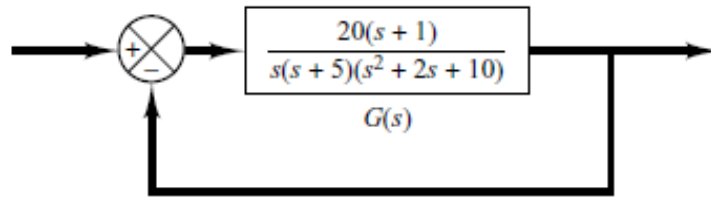

Figure 1: Block diagram of a closed-loop system
6. Given the closed-loop system in Figure 1.
- Sketch the Bode diagram of the open-loop transfer function $G(s)$ of the system shown in Figure 1 by hand, on a 4 cycle semilog graph paper.